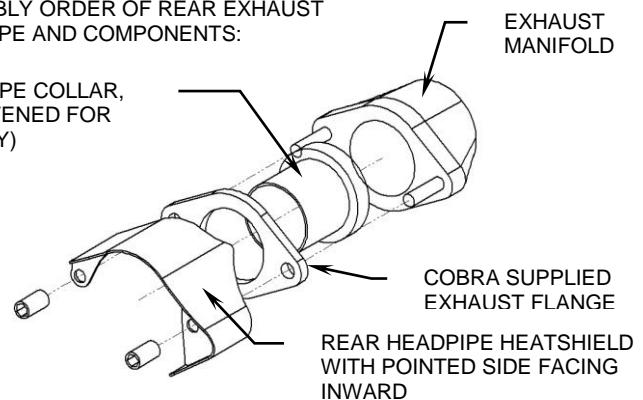

FIGURE 4
4. Install the front and rear headpipes on to the motorcycle using the supplied flanges, stock bolts and nuts. **NOTE:** On the rear headpipe be sure to install the stock flange cover as shown in Figure 4. Make sure the pipes are parallel to each other. **DO NOT TIGHTEN.**